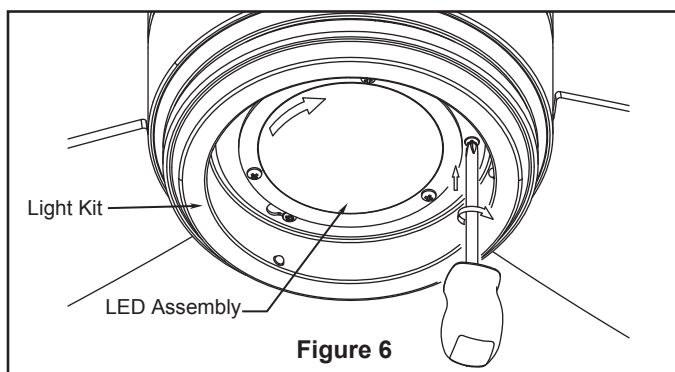

Figure 6
- ☐ 6. Assemble the LED assembly to the light kit using the two key slots. Replace the removed screw from Step 3 and secure all three screws. (Figure 6)